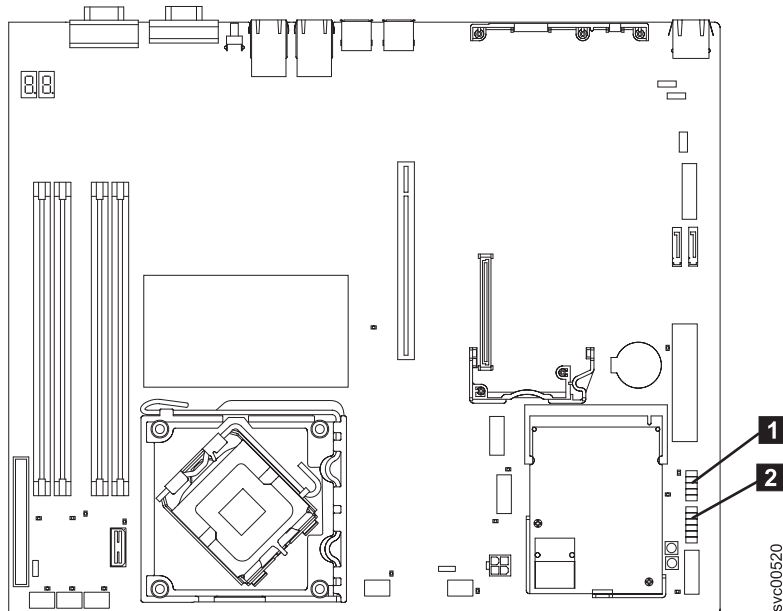

Figure 232. Connectors for the operator-information panel on the SAN Volume Controller 2145-8A4 system board
7. The operator-information panel cable consists of two thick cables and a number of thinner cables that are bundled together and routed through the chassis. It provides connectivity for the operator-information panel and the front USB ports. Trace this cable assembly through to the right side of the system board (next to the power supply) and disconnect the Front USB connector **1** and the operator-information panel connector **2** from the system board shown in Figure 232 on page 247.